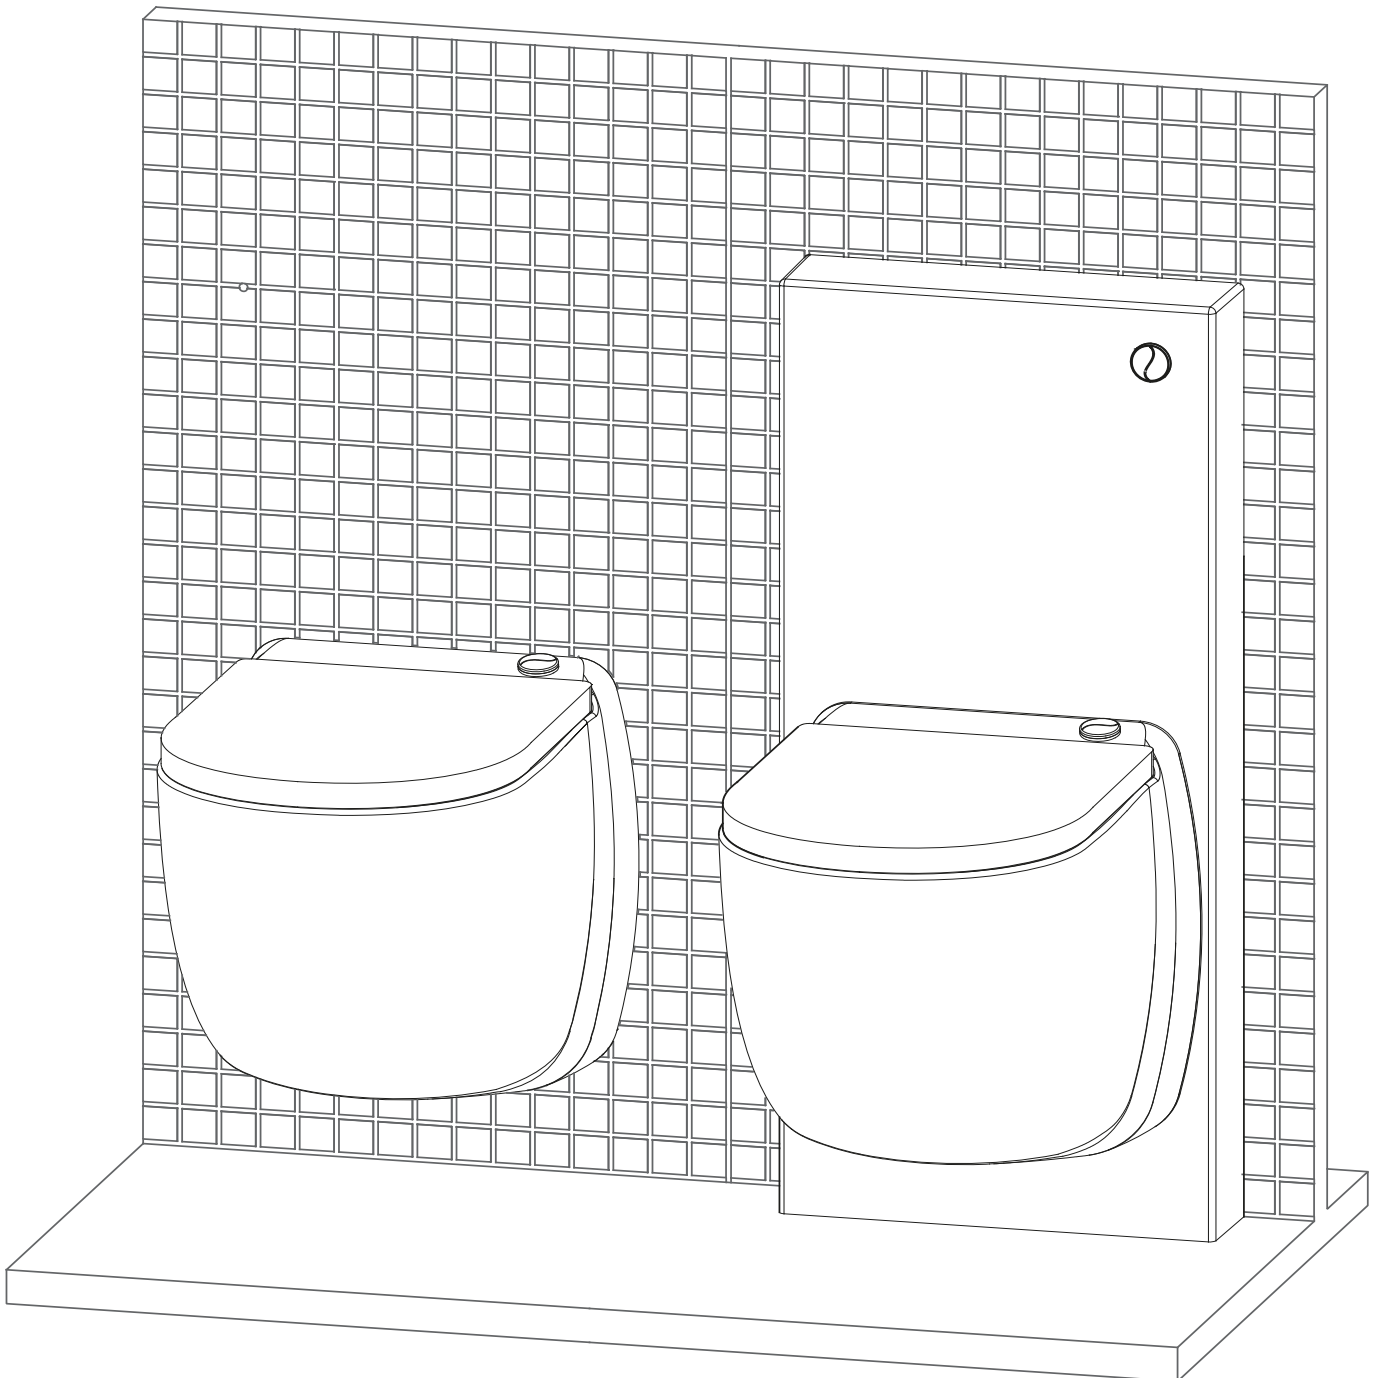

FIG 1
5. DIMENSIONS ET ENCOMBREMENTS: (Cf. Fig.1)